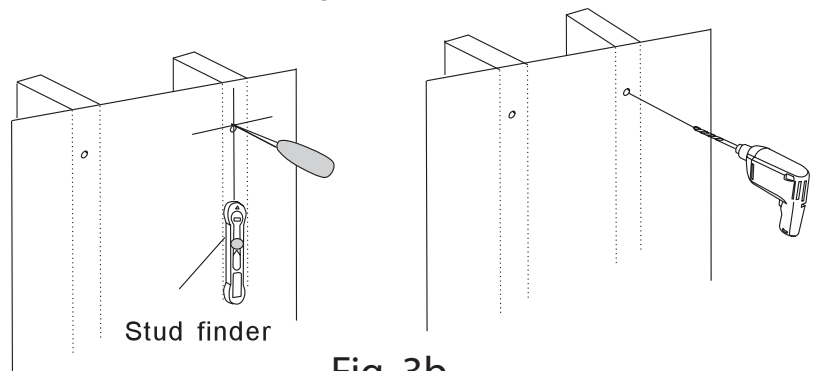

Fig. 3b
2. Place the wall mount flat against the wall with the center of the mount in the desired location, aligning the holes in the mount with the studs (Fig 3b). Use the wall plate as a template to mark the location of the four mounting holes on the wall. Make sure that the mounting holes are level and are parallel.
4. Use a wrench, the four long bolts (A), and washers (C) to attach the wall mount to the wall. Do not use wall anchors in wood stud walls.